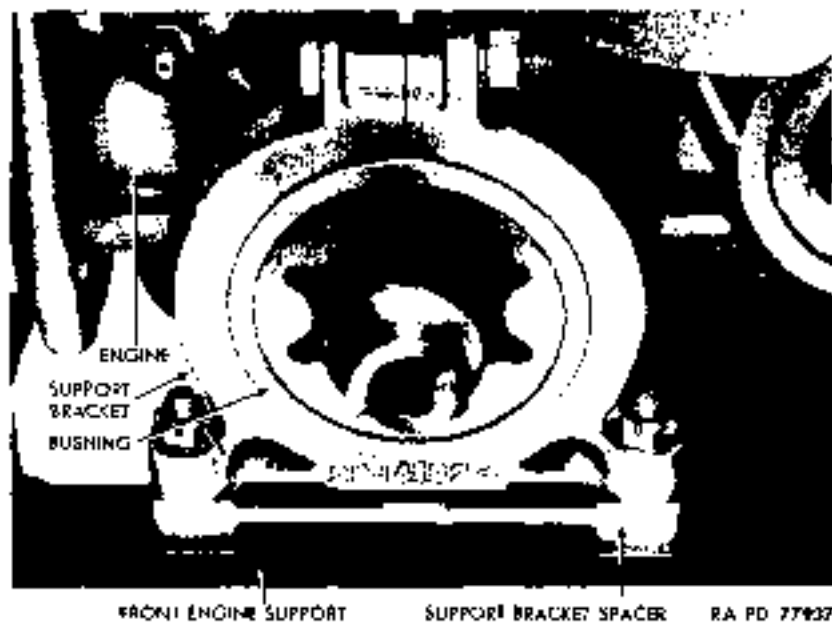

Figure 23 — Front Engine Support Bracket
vv. **Disconnect Engine Support Bolts** (figs. 23 and 16). Remove the cotter pin, nut, three flat washers, and bolt which secure front engine support bracket to front engine support on each side. Remove the two cotter pins, nuts, six flat washers, two support blocks, and two bolts which secure engine to rear engine support extensions on each side.
c. **Install Engine Support Bolts** (figs. 23 and 16). Install the 2 bolts, 6 flat washers, 2 nuts, and 2 cotter pins which secure engine support bracket to front engine support. Install the 4 bolts, 12 flat washers, 4 nuts, and 4 cotter pins which secure engine to rear support extensions.